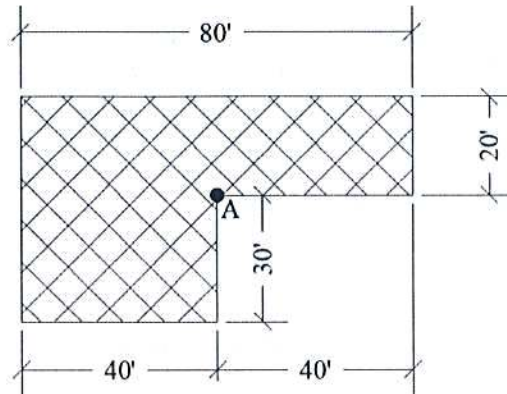

Fig. 2
2. a) Establish a relationship between void ratio and porosity of a soil. (5)
- b) An undisturbed soil sample was collected from the field in steel Shelby tubes for laboratory evaluation. The tube sample has a diameter of 7.5 cm, length of 58 cm, and a moist weight of 45 N. If the moisture content and specific gravity of soil solids are 12% and 2.7 respectively, then calculate the following: (10)
- b) A "L" shaped mat foundation is loaded with a uniform load of  $2\text{k/ft}^2$  as shown in Fig.2. Estimate the vertical pressure at a point which is 10ft below the point "A". (10)